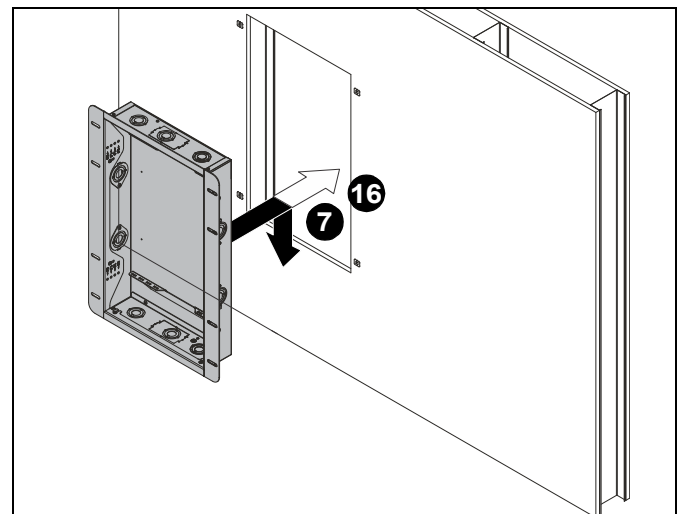
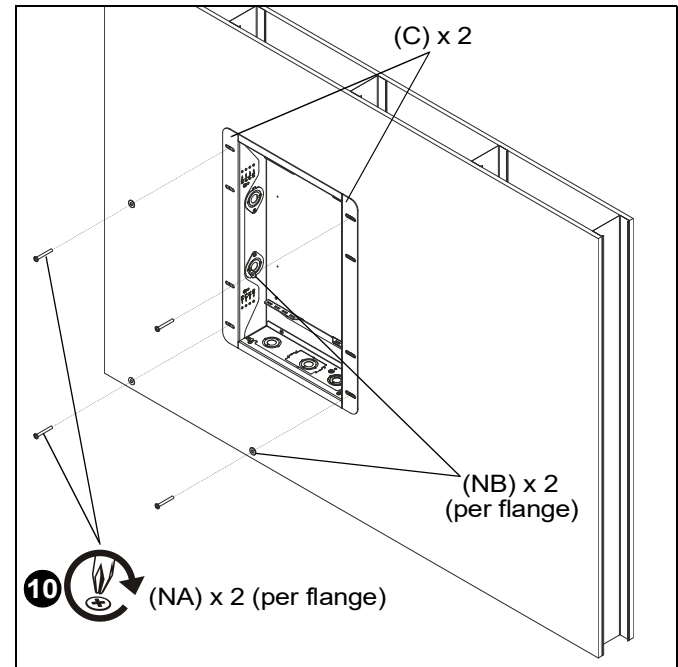

Figure 13
Figure 16
7. Slide assembled boxes into holes created in drywall. (See Figure 13)
9. Slide assembled boxes with flanges (C and D) back into holes created in drywall. (See Figure 13)
10. Use two 1/4-20 x 2" Phillips pan machine screws (NA) and two 1/4" washers (NB) to secure each flange to studs. (See Figure 13) and (See Figure 16)